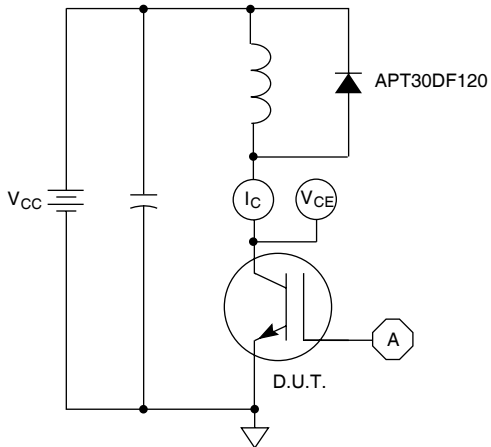

Figure 21, Inductive Switching Test Circuit
⑤  $E_{on2}$  is the clamped inductive turn-on energy that includes a commutating diode reverse recovery current in the IGBT turn-on switching loss. (See Figures 21, 22.)
⑥  $E_{off}$  is the clamped inductive turn-off energy measured in accordance with JEDEC standard JESD24-1. (See Figures 21, 23.)